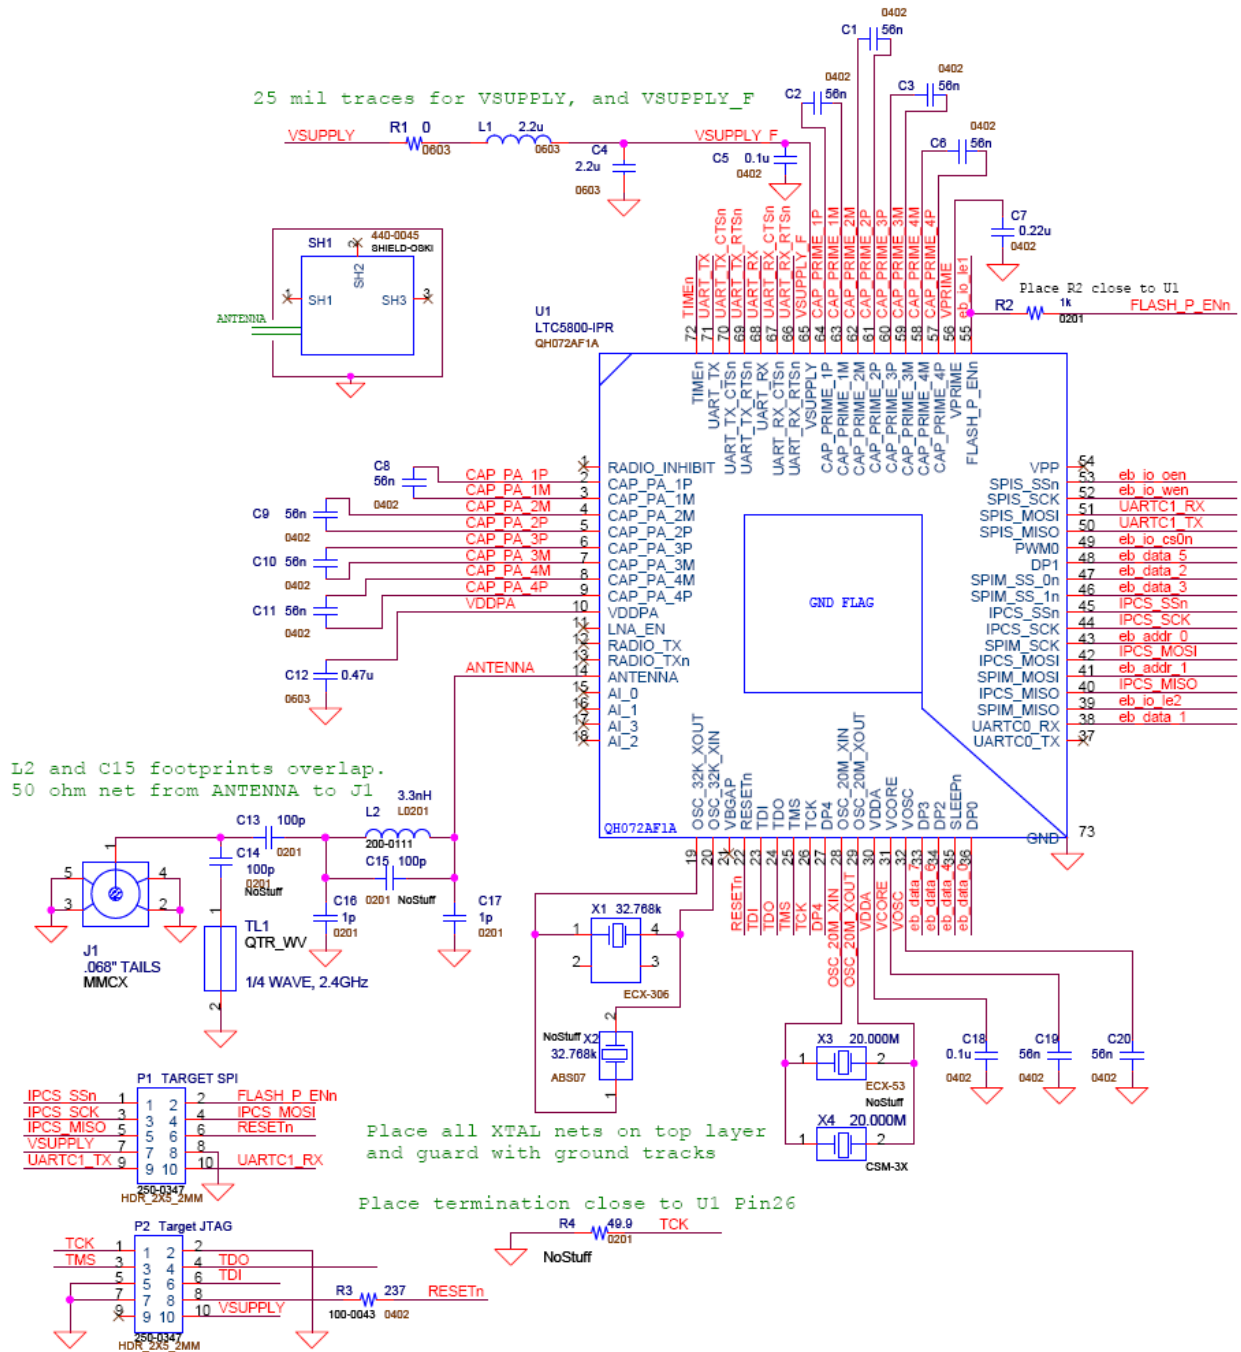
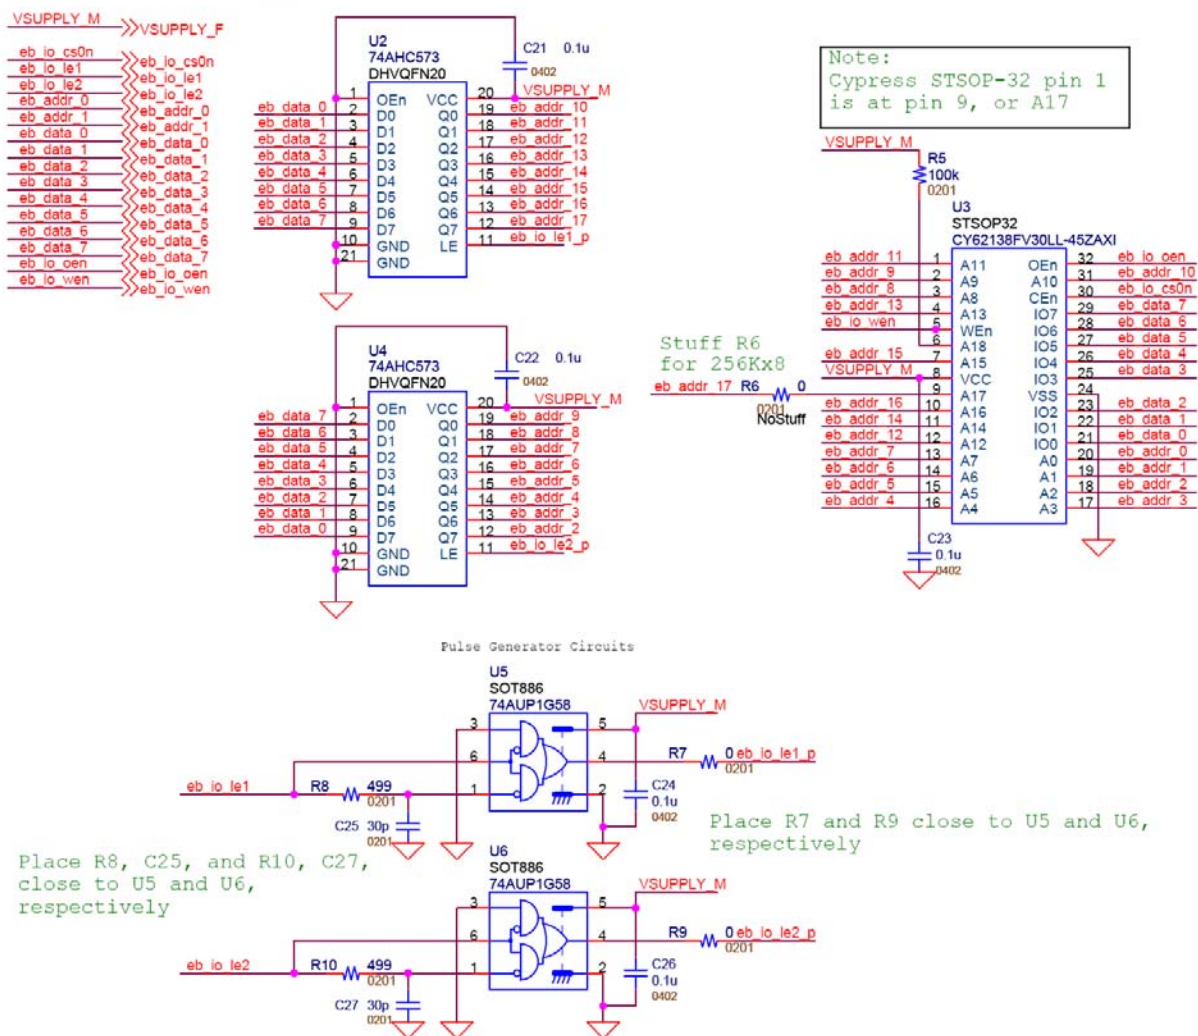

Figure 6 Eterna Extended Memory Example Schematic (page 1 of 2)
Figure 7 Eterna Extended Memory Example Schematic (page 2 of 2)
The schematic shown in Figure 6 and Figure 7 includes all the external connections and components necessary to add the external RAM. The schematic differs from the base schematic shown in Figure 1 in that:
- 3) The Memory, latches and pulse generators shown in Figure 7